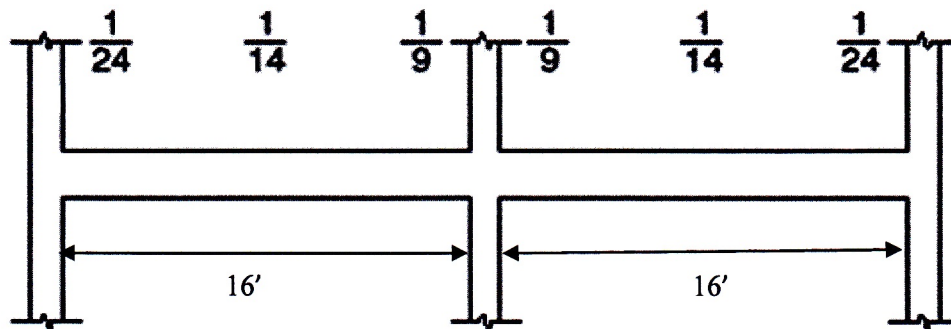

Fig. 6
b) Although the reaction from the support surface introduces vertical compression at the end of the beam, the maximum shear to be considered for design will be computed at a distance 'd' from the interior face of support, explain why? (2)
8. a) A reinforced concrete one way slab is built integrally with its supports and consists of two equal spans. The slab panels are continuous in one direction and each panel has a clear span of 16 ft (Fig. 6). The service live load is 100 psf and 4000 psi concrete is specified for use with steel with a yield stress equal to 60000 psi. Design the slab and show the reinforcement detailing. Note, this slab is okay for serviceability. Use ACI moment co-efficients (indicated on the top of the longitudinal slab section shown in Fig. 6). (8)